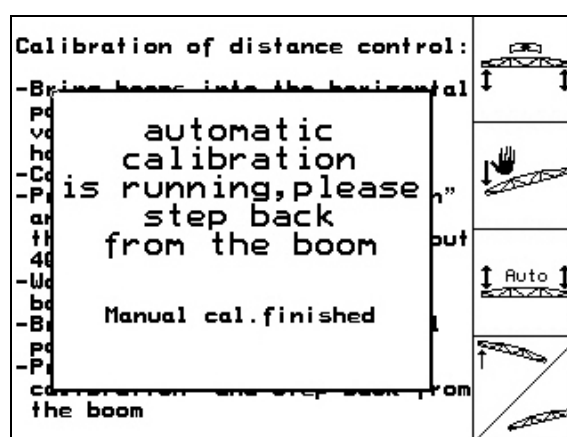

Fig. 32
- The computer will display the completion of the automatic calibration (Fig. 32).